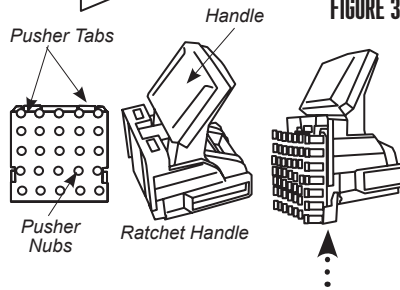

FIGURE 3
3. With the Pusher Tabs pointing upward, and the Pusher Nubs facing outward, place the Pusher flat onto the face of the Ratchet Handle and slide upward into place. The slots on the Pusher will align with the slots on the Ratchet Handle. The Pusher will click into place (FIGURE 3).